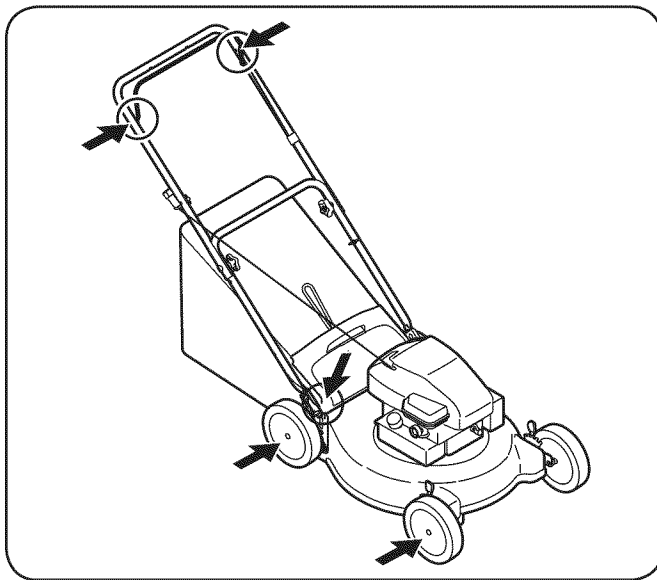

Figure 6-1
1. Lubricate pivot points on the blade control at least once a season with light oil. The blade control must operate freely in both directions. See Fig. 6-1.
2. Lubricate the wheels at least once a season with light oil (or motor oil). If wheels are removed for any reason, lubricate surface of the pivot arm and inner surface of the wheel with light oil. See Fig. 6-1.
3. Lubricate the torsion spring and pivot points on the rear discharge door periodically with light oil to prevent rust. See Fig. 6-1.